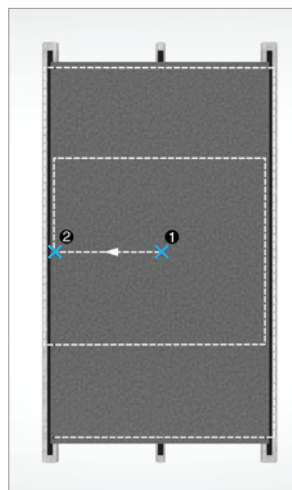

Figure 18.
- When installing Genesis, begin with the two fixed points (1 then 2), followed by the remaining gliding points above the fixing positions and finally the gliding points below. (see Figure 18)